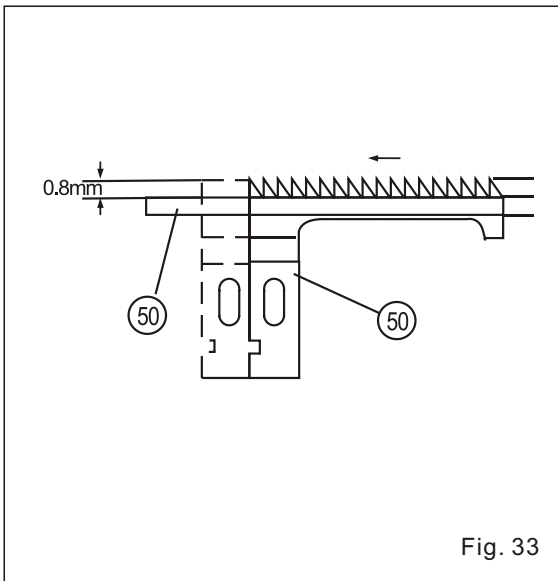

Fig. 33
2. When needle bar is in the upper dead center, the height of lower cloth feed dog on the needle plate shall be 0.8mm, as indicated in Fig. 33.